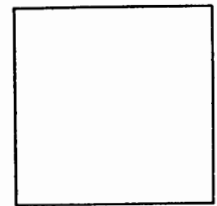

Fig. 27
21. A *Rectilinear Figure* is a portion of a plane bounded by straight (right) lines. Any rectilinear figure may be termed a polygon. Fig. 27.